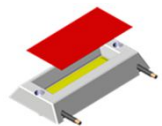

Figure3
4. Before light-on, remove the red tape on LES, please refer to Figure 3.